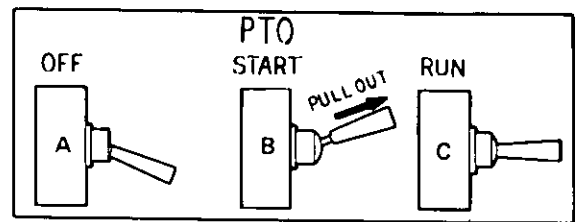

Figure 21
2. Flip the toggle switch to the "RUN" position. (See Figure 21.)